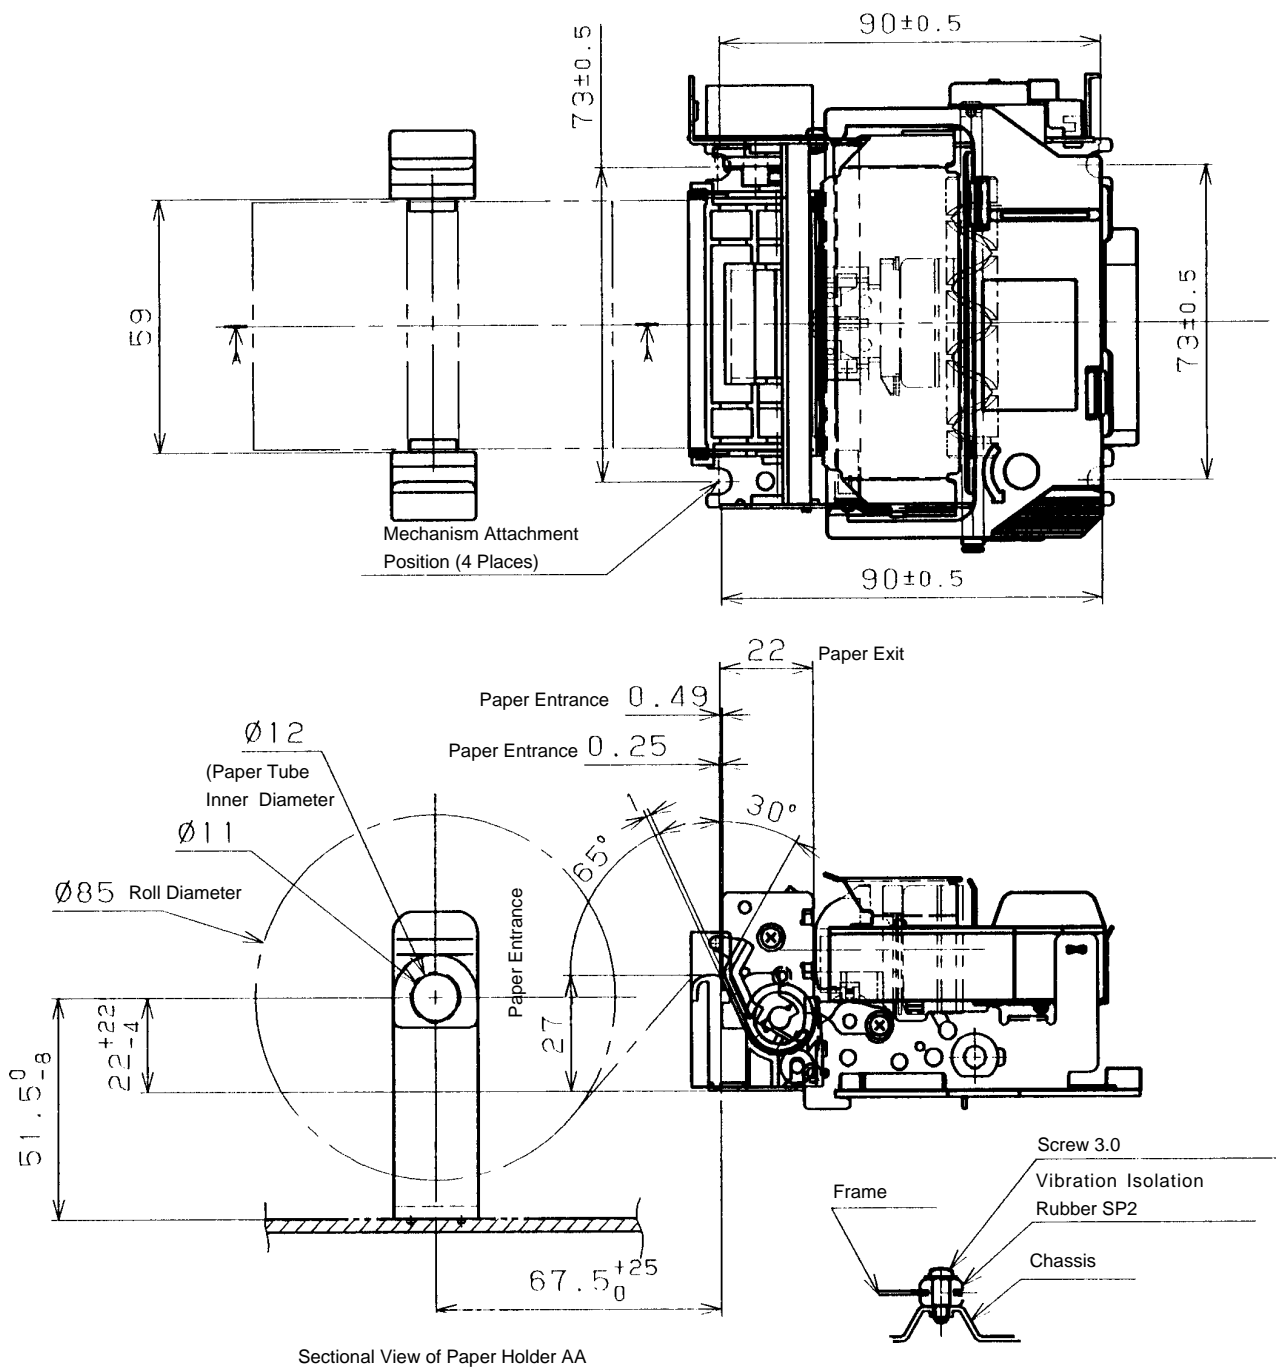

Fig. 7-3 Installation space (example) (unit: mm)
7. Allow needed space surrounding the printer. Fig. 7-3 shows an example of installation space.